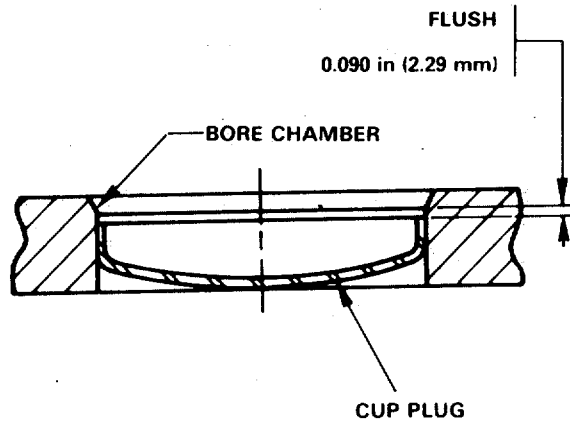

FIGURE 4-15. Expansion (Cup) Plug Specifications.
- (4) Apply a coat of expansion plug sealant to the outside diameter of the expansion (cup) plug. Apply a coat of the sealant to the inside diameter at the water hole.
- (5) Use the correct expansion plug driver to install the expansion plug (cup) plug.
- If you do not have expansion plug drivers, you can use a mandrel of the correct size to install the plug. Install the plug so that it will be even with 0.090 inch (2.29 mm) below the chamber, FIGURE 4-15. Do not push the plug to the bottom of the counterbore.